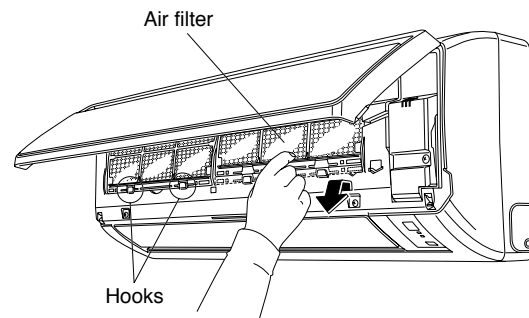

Fig. 2
- (2) Lift center section of air filter and disengage hooks. (Fig.2)